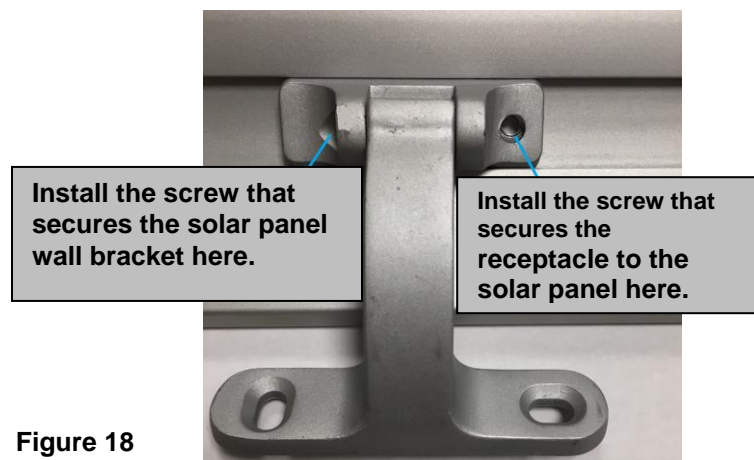

Figure 18
3. Using the solar panel's wall brackets (already attached to the solar panel), mark the place and holes positions where the two (2) solar panel brackets will be installed, afterwards, drill small pilot hole (smaller than the actual wall screws) at the four (4) screw positions.
5. Tighten the screws that block the receptacles to the solar panel (see figure 18).
6. Adjust the angle of the solar panel so that it receives proper sunlight and tighten the screws on both wall brackets/bracket receptacles at the rear of the solar panel to secure the angle adjustment (see figure 18).